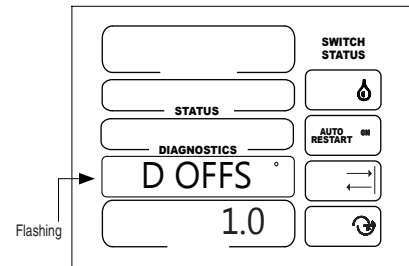

Figure 32-1
10. Press **SELECT** eight times to access the direction offset screen. See figure 32-1.
11. Record the current direction offset displayed at the bottom of the screen. See figure 32-1 .